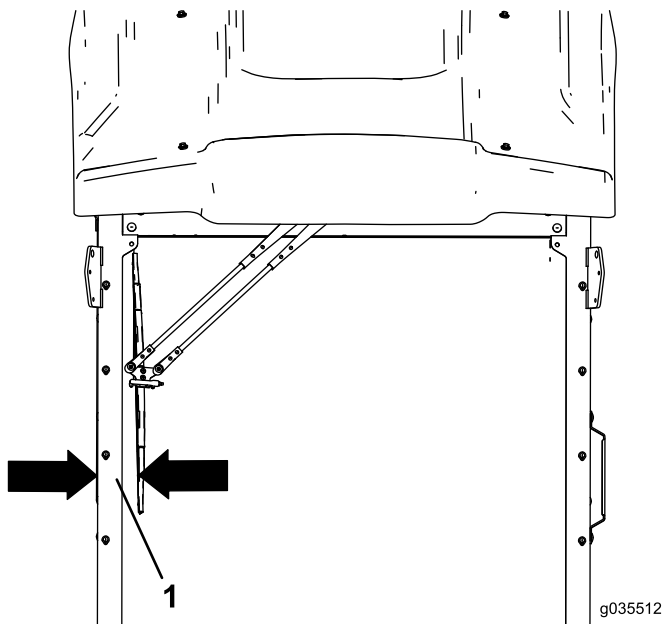

Figure 4
2. Install the wiper arm to the motor by spacing the wiper blade 76 mm (3 inches) away from the side of the windshield trim (Figure 4).